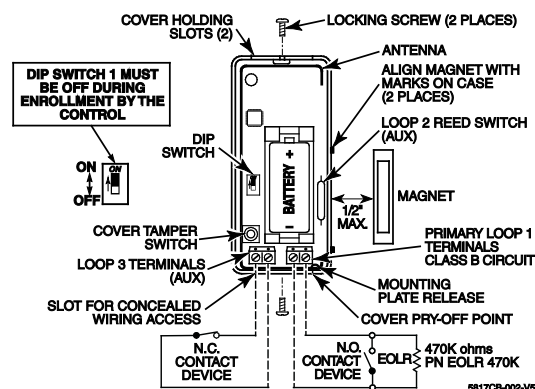

Figure 3. 5817CBXT Transmitter, Top Cover Removed
- Notes:** a. In order for the control panel to enroll the transmitter, the DIP switch must be set to OFF (see Figure 3). .
Connect the loop wiring to the unit's terminals before installing the battery (see Figure 3).